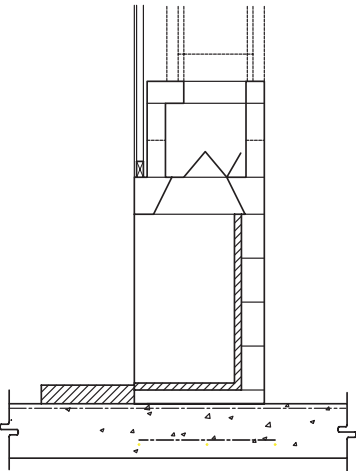

FIGURE 6
2. Slab-on-grade foundations, thickened and reinforced: for additional load carrying. **(Figure 6)**